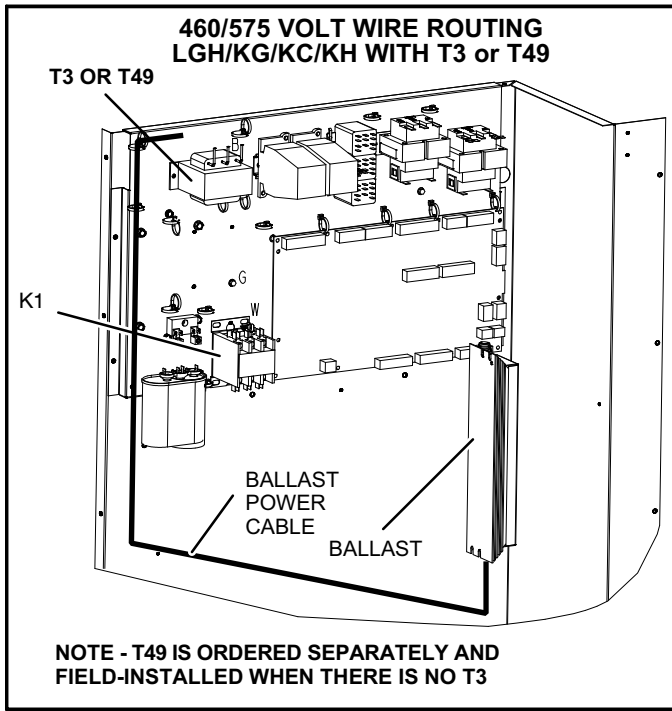

FIGURE 6
- Figure 6 - 460/575V LGH/LCH/KG/KC/KH